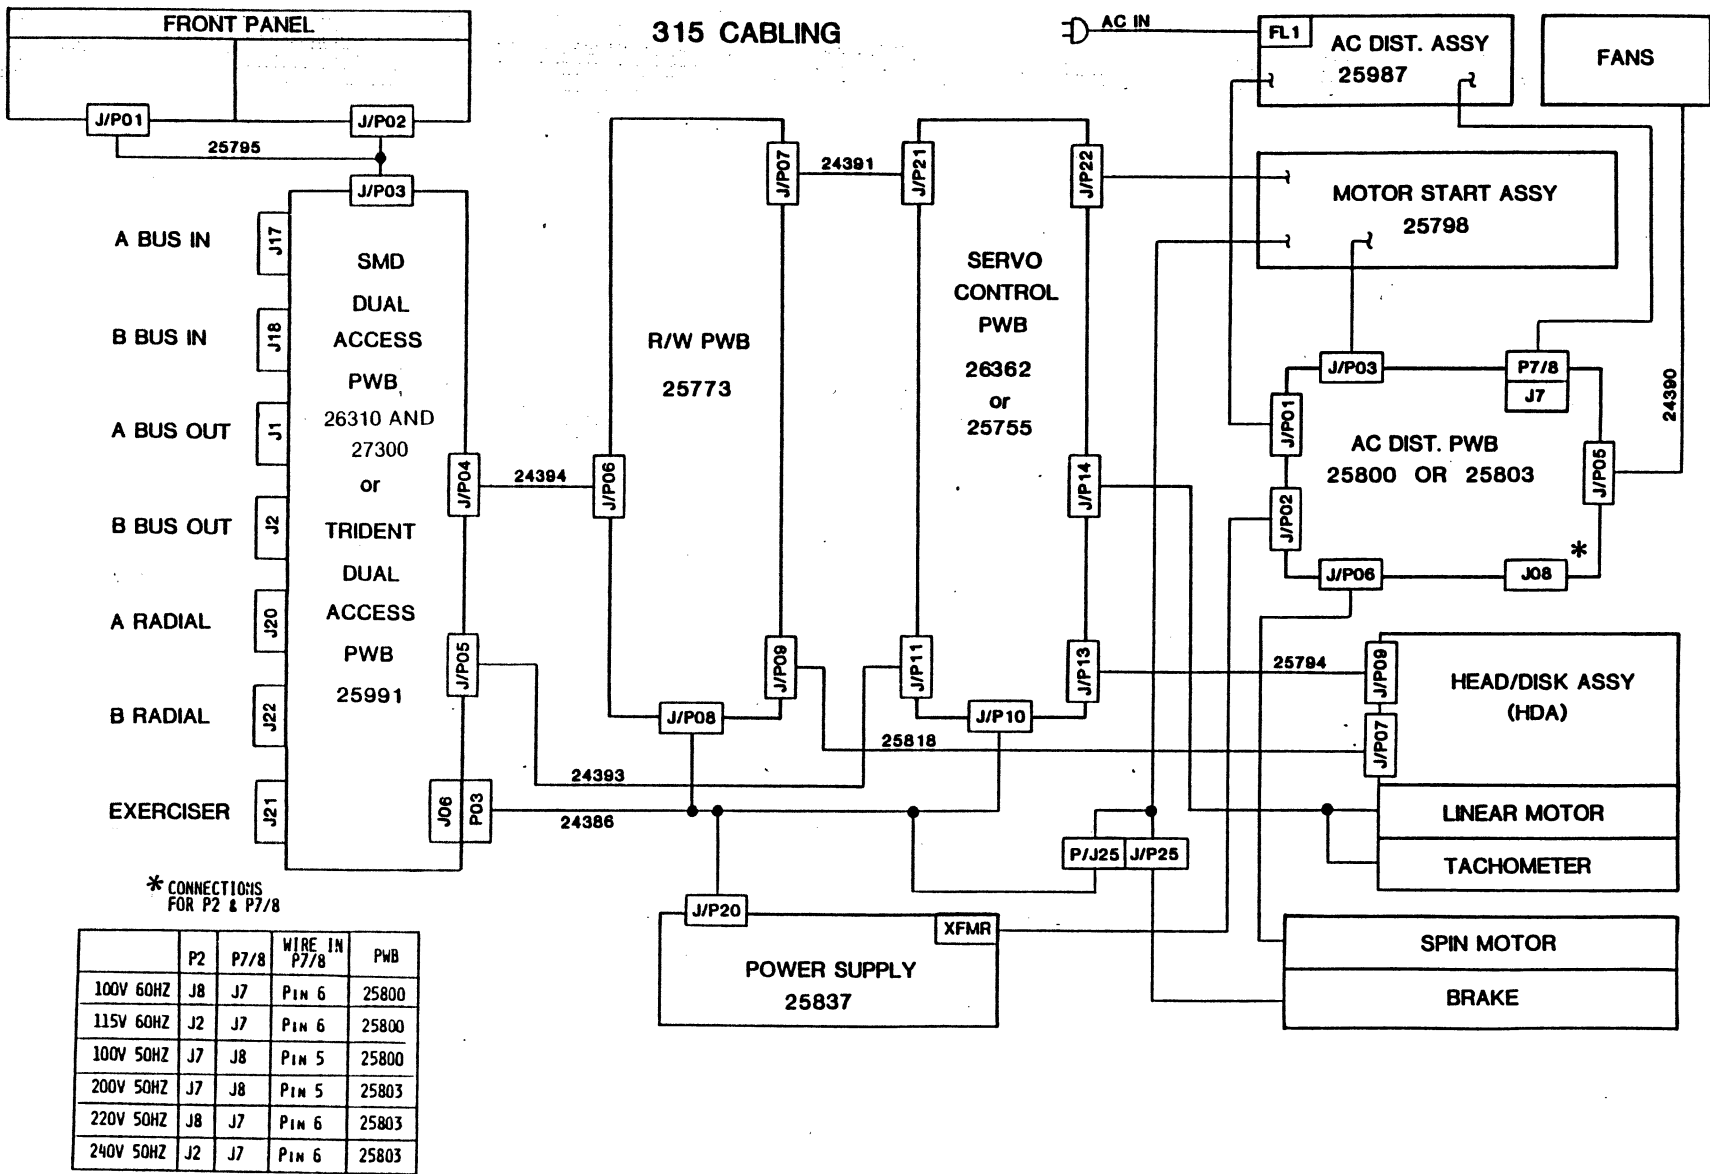

Figure 3-4. Model 315 System Cabling
6. Connect the system cables as shown in Figures 3-2 or 3-3. The interconnecting cable connectors for the dual access SMD and Trident I/O and Control PWB's are shown in Figures 3-4 through 3-6. Interconnecting I/O and Control Cabling for Single Access is shown in Figure 3-7. When interfacing the disk drive to the system, it is necessary to terminate the BUS cable at the last drive on the line (see Figures 3-2 and 3-3). The terminator part numbers are shown in Table 3-1.
See Figures 3-4, 3-5, 3-6 and 3-7 for internal cabling of both 315 and 315-1 disk drives. Note the locations of plugs on power supply (315-1) or AC Distribution PWB (315) for different AC input voltage configurations.